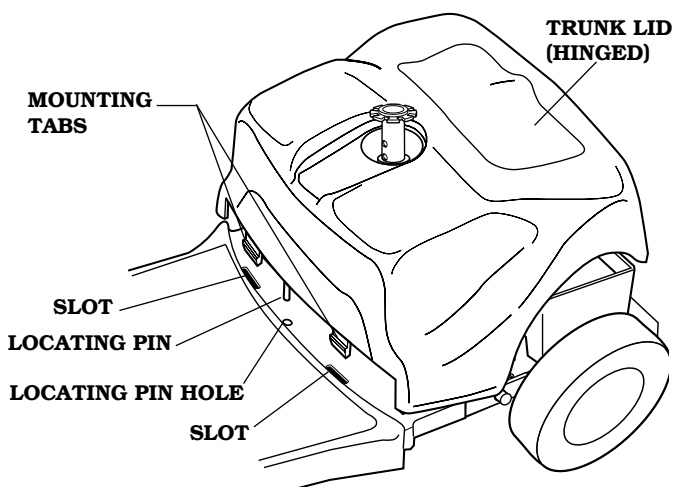

FIGURE 34. SHROUD INSTALLATION
1. Carefully lower the shroud over the seat post. See figure 34.